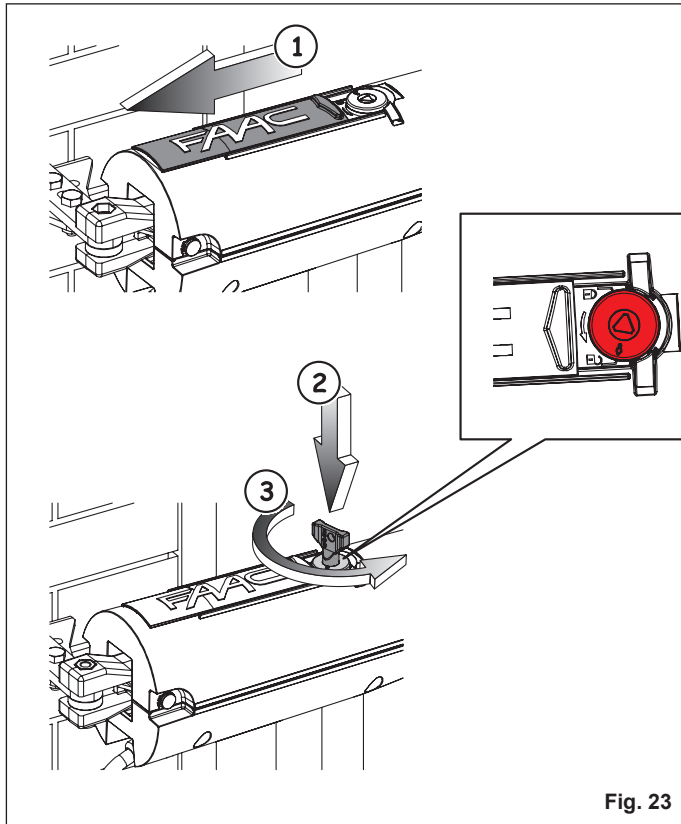

Fig. 23
2. Slide off the protective cap, Figure 23 Ref. 1.
3. Insert the supplied release key, Figure 23 Ref. 2, and turn it counter-clockwise until it stops, Figure 23 Ref. 3. The release position is indicated by an open padlock.